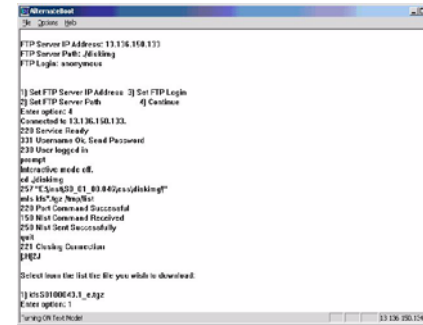

Figure 8 Loading kfs****.tgz
- ii. Type 1 and press Enter (Figure 8).